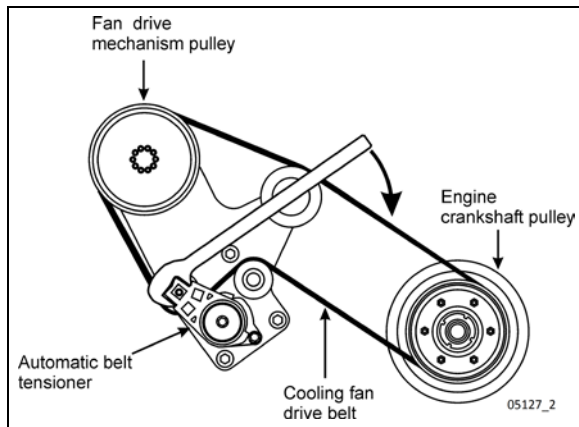

FIGURE 46: DRIVE BELT ROUTING (VOLVO D13 ENGINE)
1. Wrap the new drive belt around the fan drive mechanism pulley, the idlers and the automatic tensioner idler as shown on Figure 46.
2. Using the special tool included with your vehicle (see inside the Warning Reflectors box located in the first curb-side baggage bay), rotate the automatic tensioner in clockwise direction to relieve tension on the belt and hold the tensioner in that position (Figure 46).